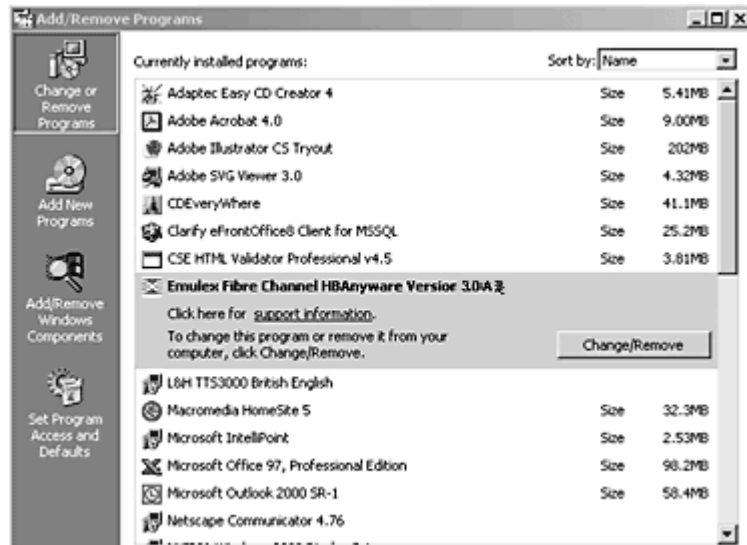

Figure 11: Add Remove Programs Window
1. Click **Start, Settings and Control Panel**. The Add/Remove Programs window appears. Select the Install/Uninstall tab. A window similar to Figure 11 appears: